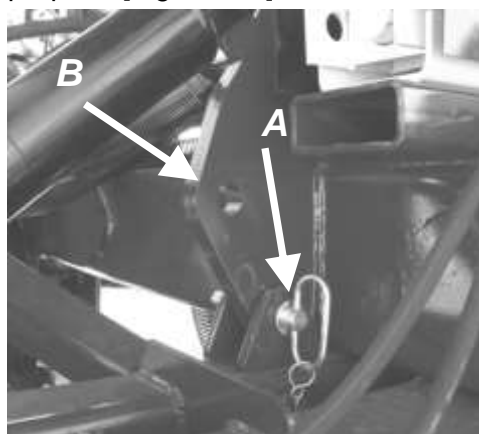

Figure 7
17. Remove the safety pins on the tool bar [Figure 7, **A**]. Install the pins in the upper hole [Figure 7, **B**].
1. Lower the tool bar to the ground or Lock the tool bar with safety pins provided for this purpose [Figure 7,A].
2. For the soybean configuration (Without fertilizer application) you must closed the hydraulic valves which control the depth of the front toolbar [Figure 12C1] and install the pins [Figure 7].